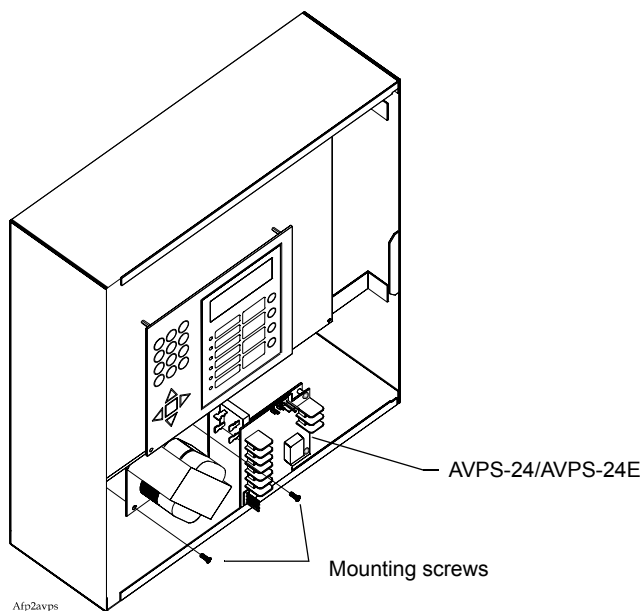

Figure 161 Mounting the AVPS-24/AVPS-24E
1. Place the AVPS-24/AVPS-24E into the cabinet as shown in Figure 161.